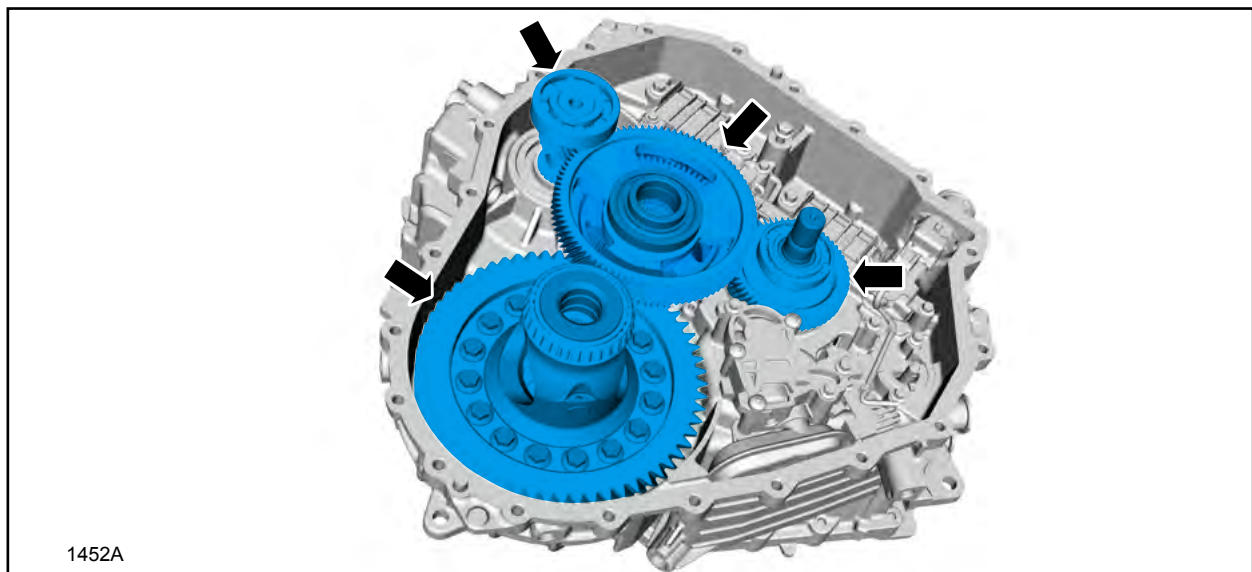

FIGURE 2
2. Remove the transfer shaft gear assembly, traction motor drive gear assembly, final drive input gear assembly, and the differential carrier gear assembly. See Figure 2.